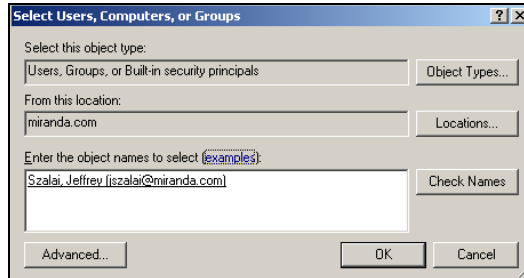

Figure 19-47. The Select Users, Computers, or Groups dialog box
- The names are now listed in the **SELECT USERS, COMPUTERS, OR GROUPS** dialog box (figure 19-47).